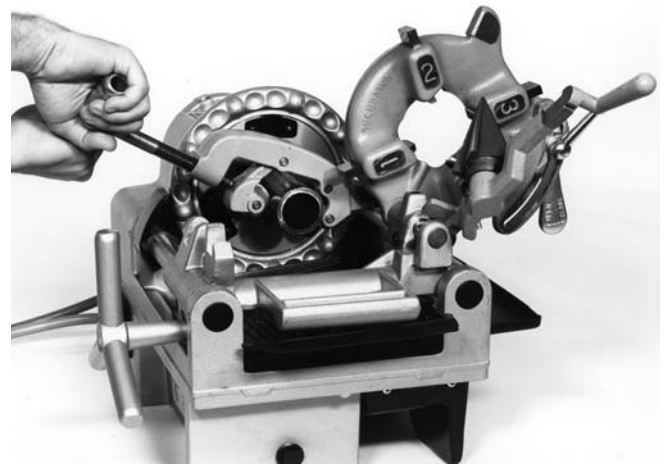

Figure 4 – Cutting Pipe With No. 732 Cutter
4. Assume the correct operating posture (*Figure 4*).